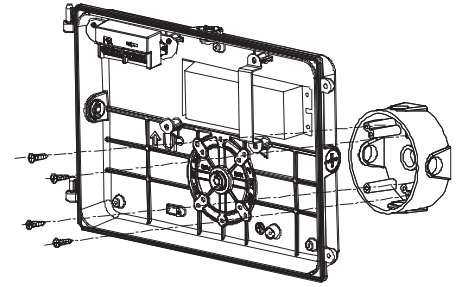

Fig 7
**METHOD 2:** Fix the rear housing by 4 screws (not provided) to the existing junction box on the wall (Fig 7).